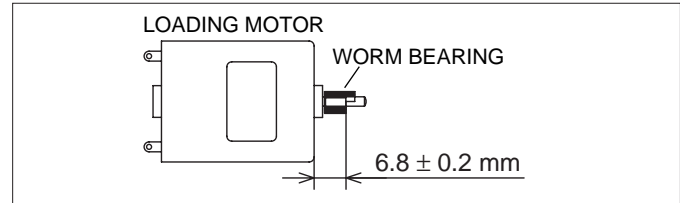

Fig. 2-2-6c
- When replacing the worm bearing of the loading motor assembly, attach it according to the following specification. If worm bearing is not attached correctly, a mechanism noise may occur. (See Fig. 2-2-6c)